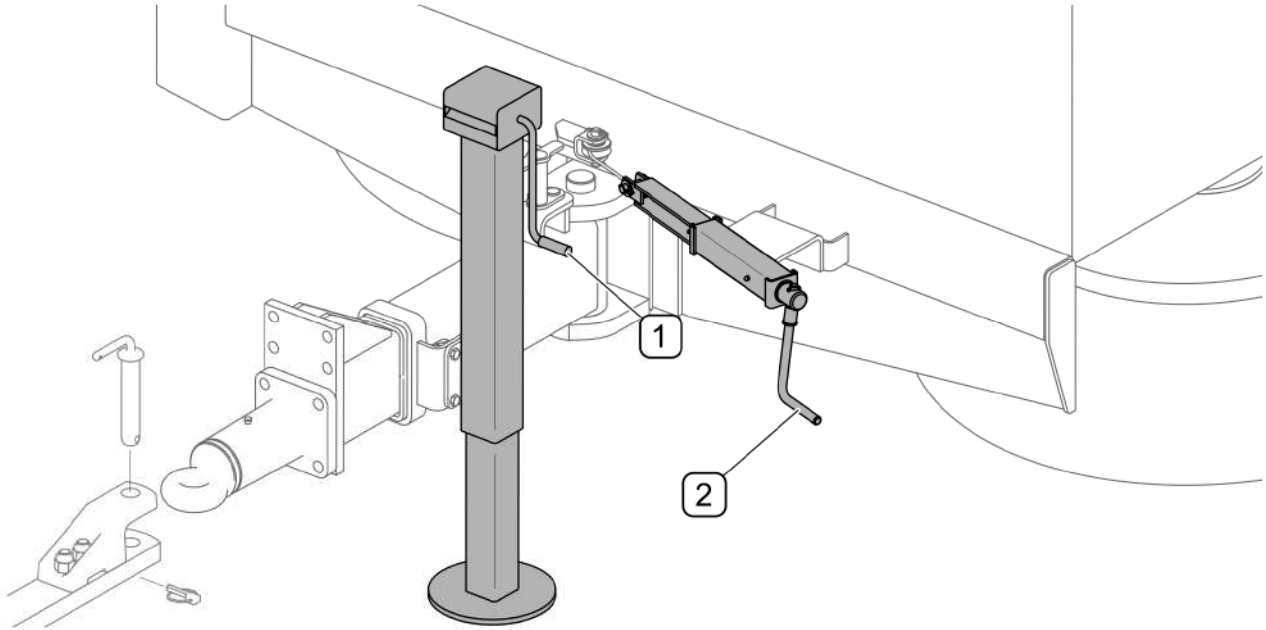

FIG. 4.2 Support and parking brake
- using adjustable support (FIG. 4.2), set the drawbar eye at a proper height,
- raise the parking stand by means of crank (1),
- turn crank (2) in order to release parking brake.